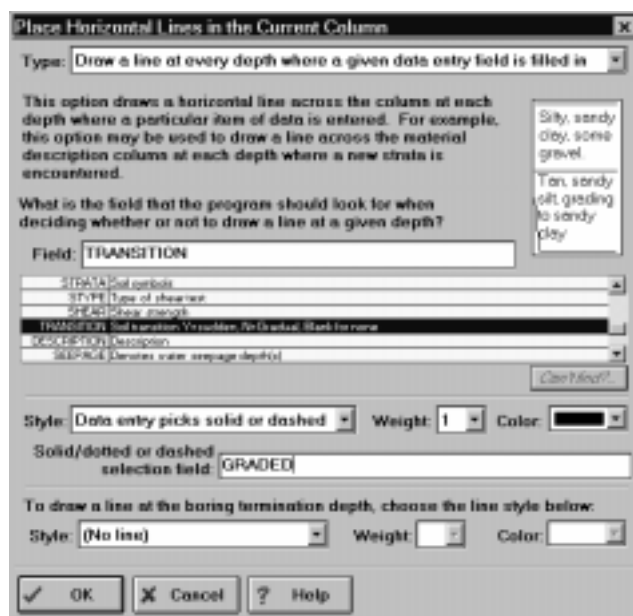

Figure 4.41 -- Line Insert Dialog
3. Draw a line at every depth where a given data entry field is filled in. Choose "Draw a line at every depth where a given data entry field is filled in" from the **Type** box. LD4 displays the dialog shown in Figure 4.41: